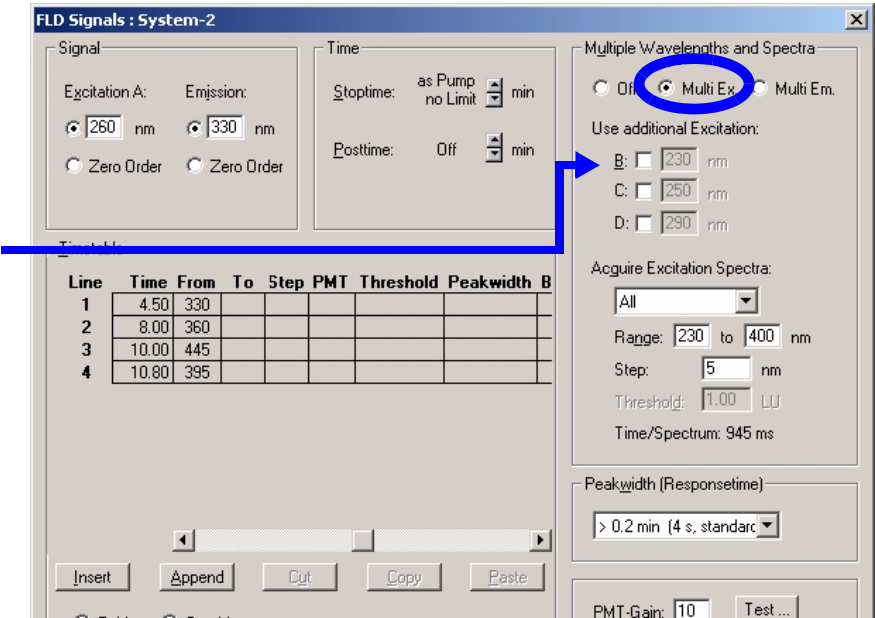

Figure 39 Detector Settings for Excitation Scan
- 5 Using the settings and the timetable (from previous page), do a second run for the evaluation of the optimal excitation wavelength. See Figure 39.